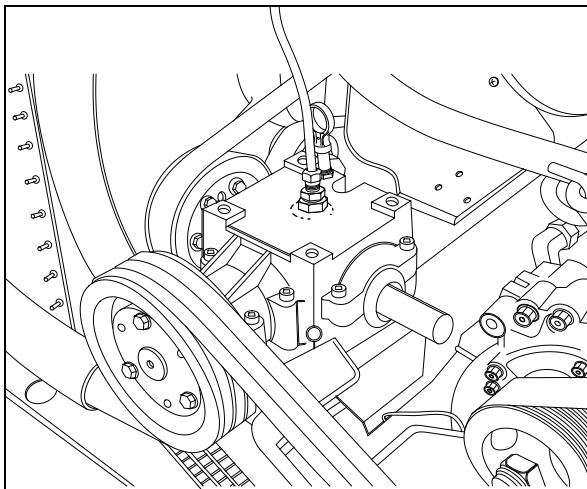

FIGURE 14: FAN GEARBOX 05062T
5. Remove the dipstick located on top of gearbox and wipe with a clean rag (Fig. 14).